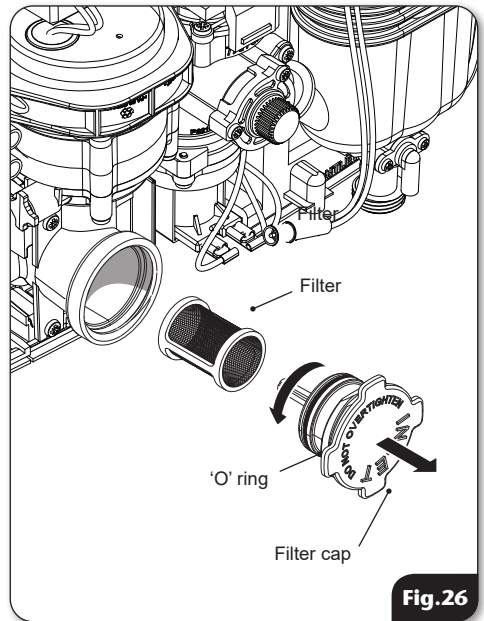

Fig.26
- The inlet filter is situated inside the filter assembly (**fig.26**).